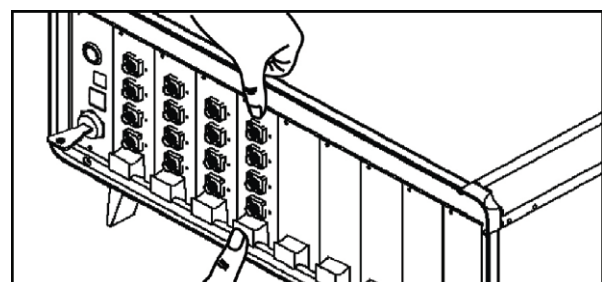

Figure 27 - Press the IQS-2800 Module to seat it into the Connector
- Once the IQS-2800 reaches the connector at the end of the slot, press your thumbs on the *release latch* and the top of the IQS-2800 module as shown in Figure 27 to make sure the IQS-2800 seats correctly.